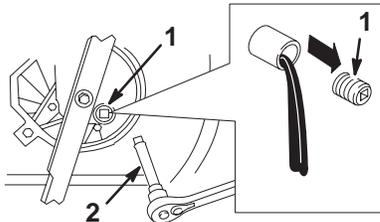

Figure 21
5. Remove the oil drain plug, return the lawn mower to its operating position, and allow the oil to drain into the drain pan (Fig 21).